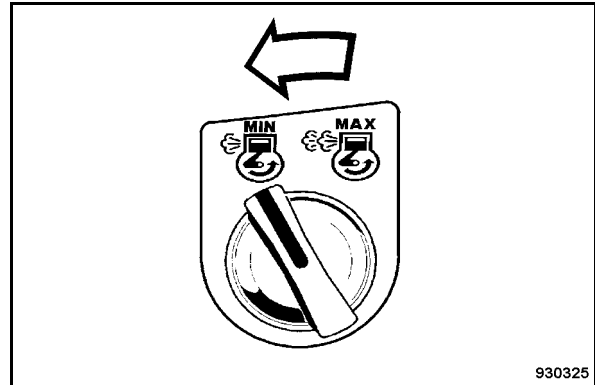

Fig. 62
- Turn the momentary contact switch for engine speed (Fig. 62) anti-clockwise to position "MIN" (idle speed).